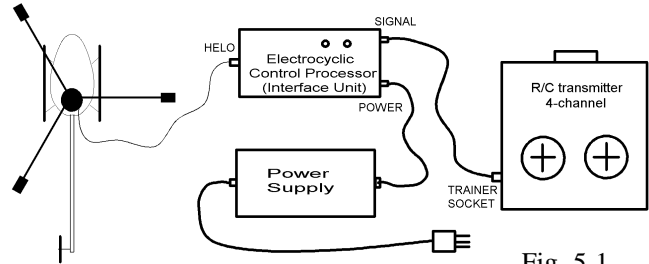

Fig. 5-1
Once you have the right lead, the equipment should be connected up as in Fig. 5-1, **with the exception of the Hoverfly itself, which should not be connected yet.**
i) Begin by connecting everything up as in Fig. 5-1, **with the exception of the Hoverfly itself, which should not be connected yet.** Switch everything on, and check that the green Signal light illuminates on the ECP. Now switch off the power to the ECP, but leave the transmitter on.
i) Connect everything up as in Fig. 5-1, **with the exception of the Hoverfly itself, which should not be connected yet.**
i) Connect up the equipment as in Fig 5-1. Turn on the transmitter, and set all the trim tabs to their central positions. Set the collective stick to the zero position, which will normally be fully towards you. Plug in the power supply, but DO NOT turn on the mains yet.